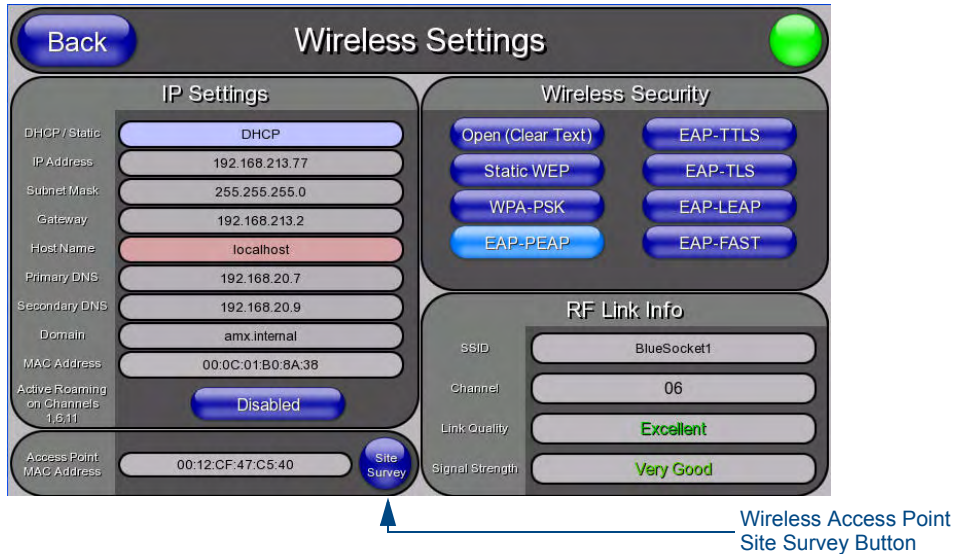

FIG. 15 Wireless Settings page (IP Settings section)
1. Select **Wireless Settings**. Wireless communication is set within the *IP Settings* section of this page (FIG. 15).
1. From the *Protected Setup* page, press the **Wireless Settings** button to open the *Wireless Settings* page. Wireless communication is set within the IP Settings section of this page (FIG. 15).